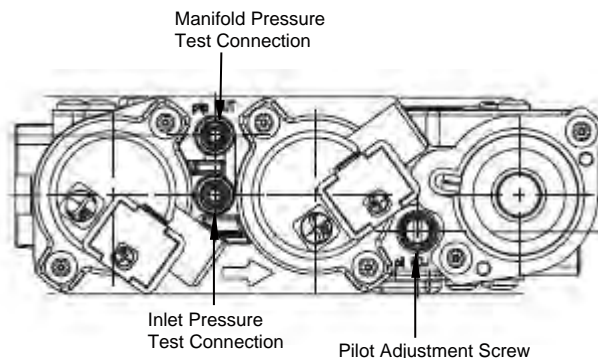

Figure 28. Pilot Adjustment on the SIT Proflame 2 gas valve.
1. **Locate Pilot Adjustment Screw.** (See figure 28)